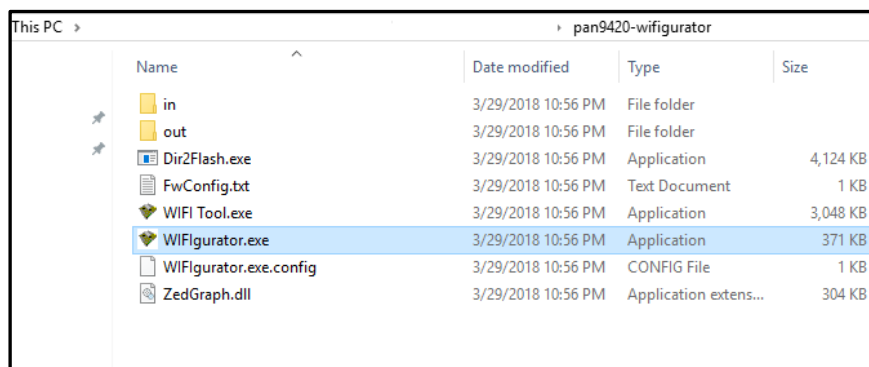

Figure 4: WIFigurator Directory
3. Run `WIFigurator.exe` from the extracted directory (see Figure 4 below).